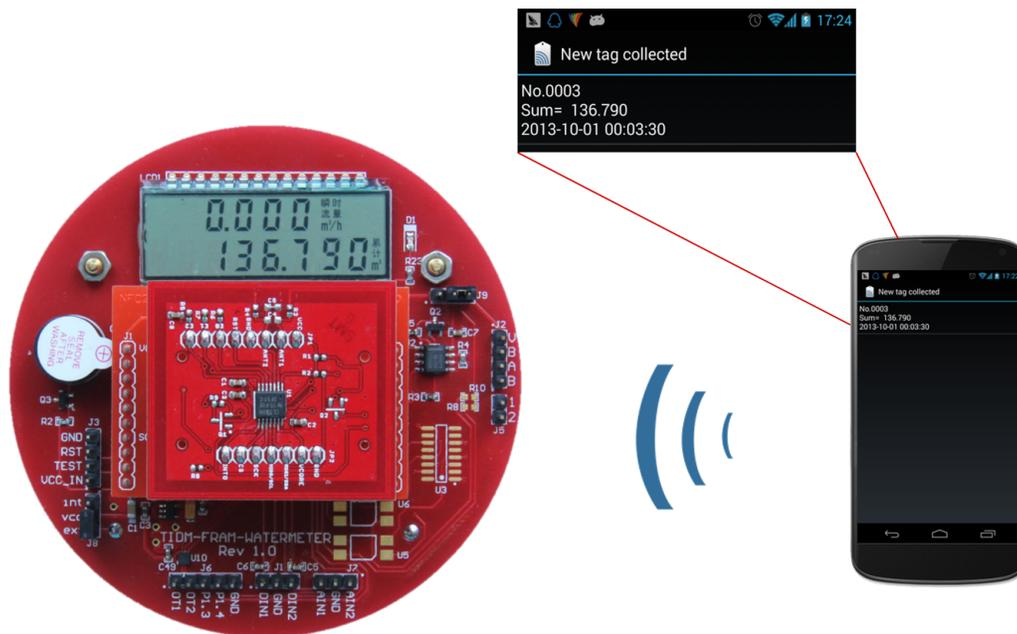

Figure 21. NFC AMR Demo
3. Put an NFC reader such as a smart phone with an NFC antenna close to the NFC BoosterPack. The tag information will be sent to the phone and shown on the screen. The content of the tag includes the meter number, total flow data, and the last recorded time. See Figure 21: